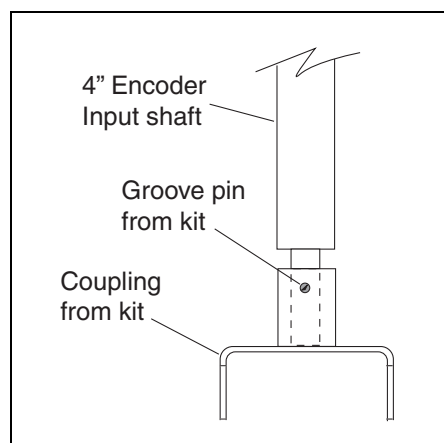

Figure 18. Attaching Coupling To Neptune Adapter Shaft
16. With the end play within limits, get the coupling and groove pin from the kit and attach the coupling to the bottom of the input shaft with the pin as shown in Figure 18.